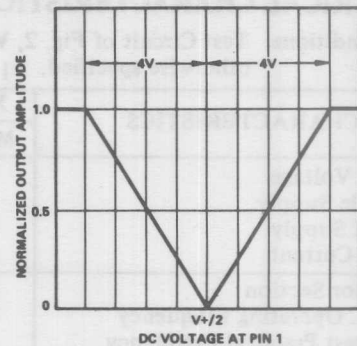

Figure 6. Normalized Output Amplitude vs DC Bias at AM Input (Pin 1).
**Amplitude Modulation:** Output amplitude can be modulated by applying a dc bias and a modulating signal to Pin 1. The internal impedance at Pin 1 is approximately  $100 \text{ K}\Omega$ . Output amplitude varies linearly with the applied voltage at Pin 1, for values of dc bias at this pin, within  $\pm 4$  volts of  $V^+/2$  as shown in Fig. 6. As this bias level approaches  $V^+/2$ , the phase of the output signal is reversed; and the amplitude goes through zero. This property is suitable for phase-shift keying and suppressed-carrier AM generation. Total dynamic range of amplitude modulation is approximately  $55 \text{ dB}$ .